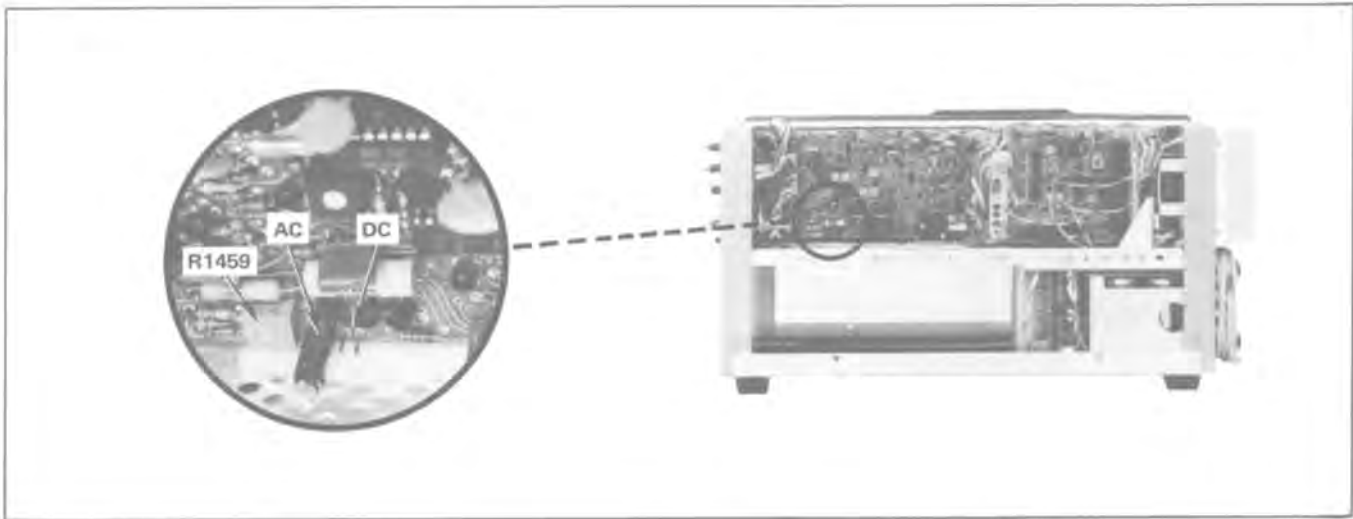

Figure 5-6. Location of Calibrator AC/DC jumper.
- a. Change jumper P1440 (see Figure 5-6) to the DC position.
- a. Change jumper P1440 to the AC position (see Figure 5-6).